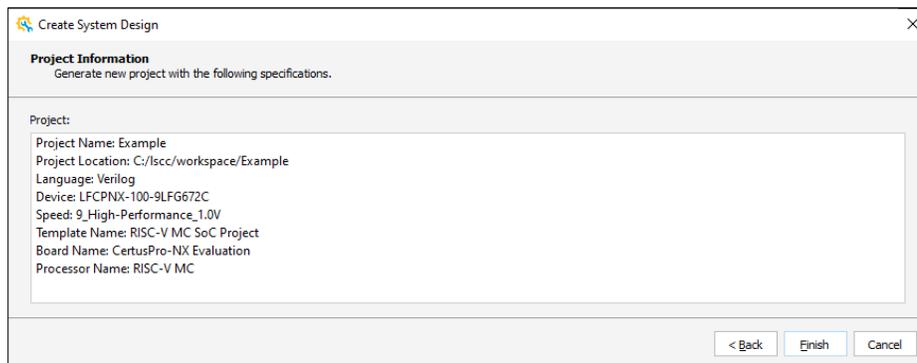

Figure 2.8. Project Information Wizard
- Click **Next**. The Project Information wizard opens, check and confirm the project information (Figure 2.8).